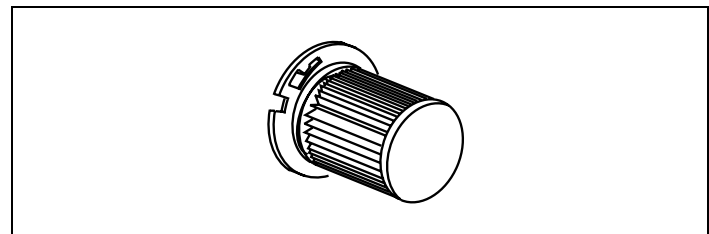

Figure 35. Paper Filter
5. Insert new paper filter onto flange. See Figure 35.